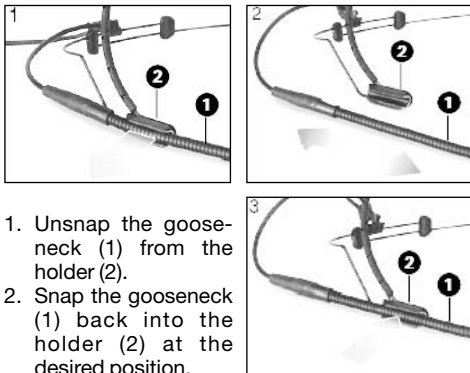

Fig. 8: Adjusting the microphone arm.
- Refer to fig. 8.
1. Unsnap the gooseneck (1) from the holder (2).
2. Snap the gooseneck (1) back into the holder (2) at the desired position.